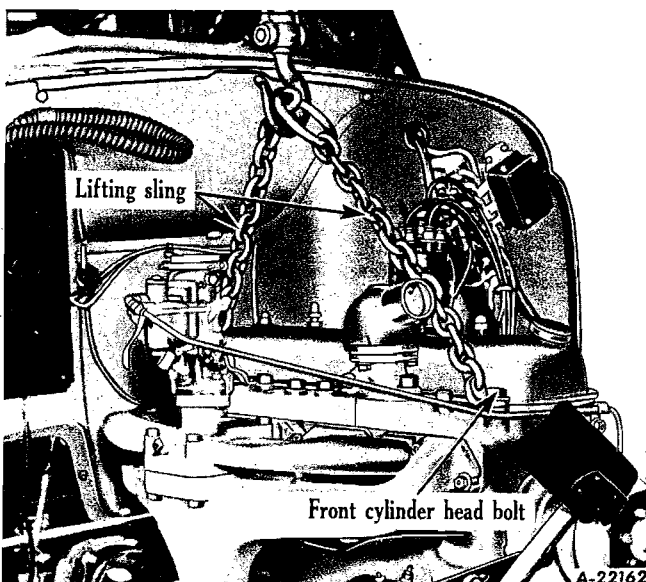

Fig. 4 - Removing engine from chassis. Chain sling attached to front and rear right side cylinder head bolts.
10. Attach engine sling to front and rear right side cylinder head bolts and remove engine (Fig. 4).